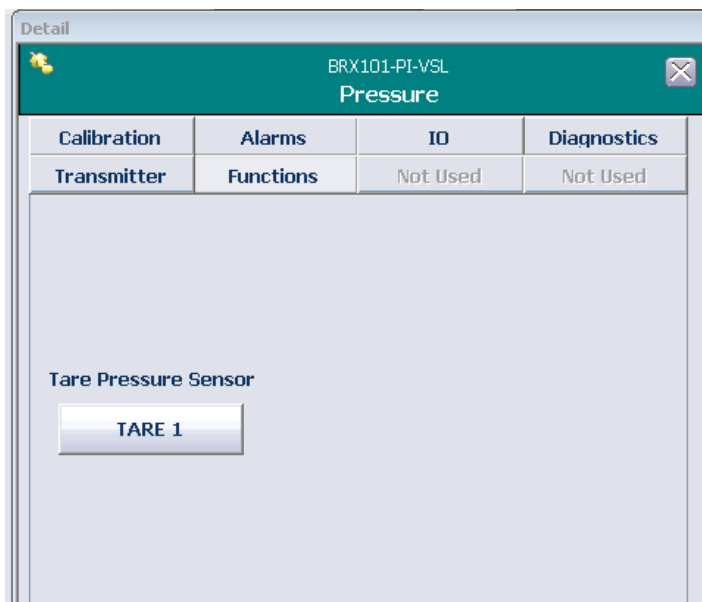

Figure 3.29. Tare button on the Functions tab of the Pressure Detail window.
2. Click **Tare** (Figure 3.29) with no pressure inside the BPC.